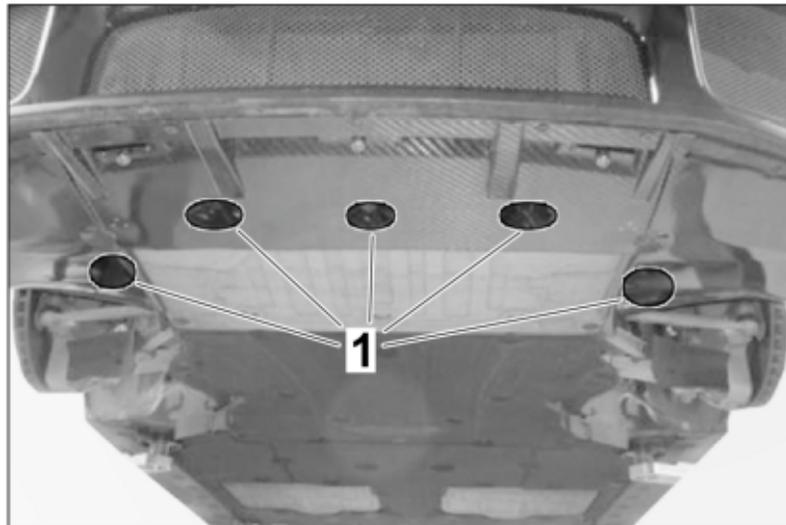

Figure 25
3. – Secure the new carbon underbody panel at the points shown ⇒ *Figure 25 -1-* using the five ST4.8 x 16 tapping screws (without collar) supplied. **Important:** The standard ST4.8 x 19 tapping screws must always be replaced.